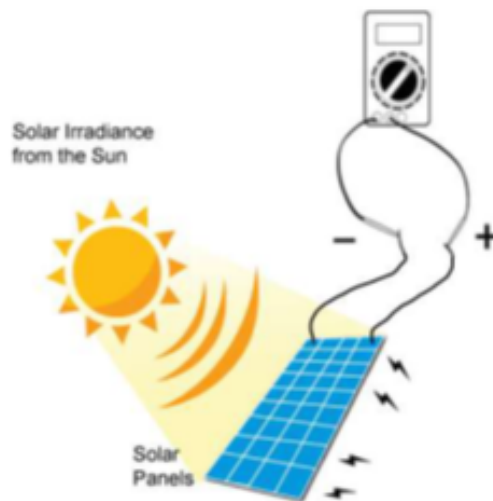

Figure 1.3 : Solar panel diagram exposed to sun / light source. [1]
1. Attach the wire or two electrical leads with an alligator clip to a solar cell and connect red probe of the multimeter with the positive terminal of the solar cell while the black probe of the multimeter will connect to the negative terminal of the solar cell as Figure 1.3.
2. Expose the solar cell direct to the sunlight as shown in Figure 1.3.
5. Use the sun or shine a light source on the solar cell as in Figure 1.3.